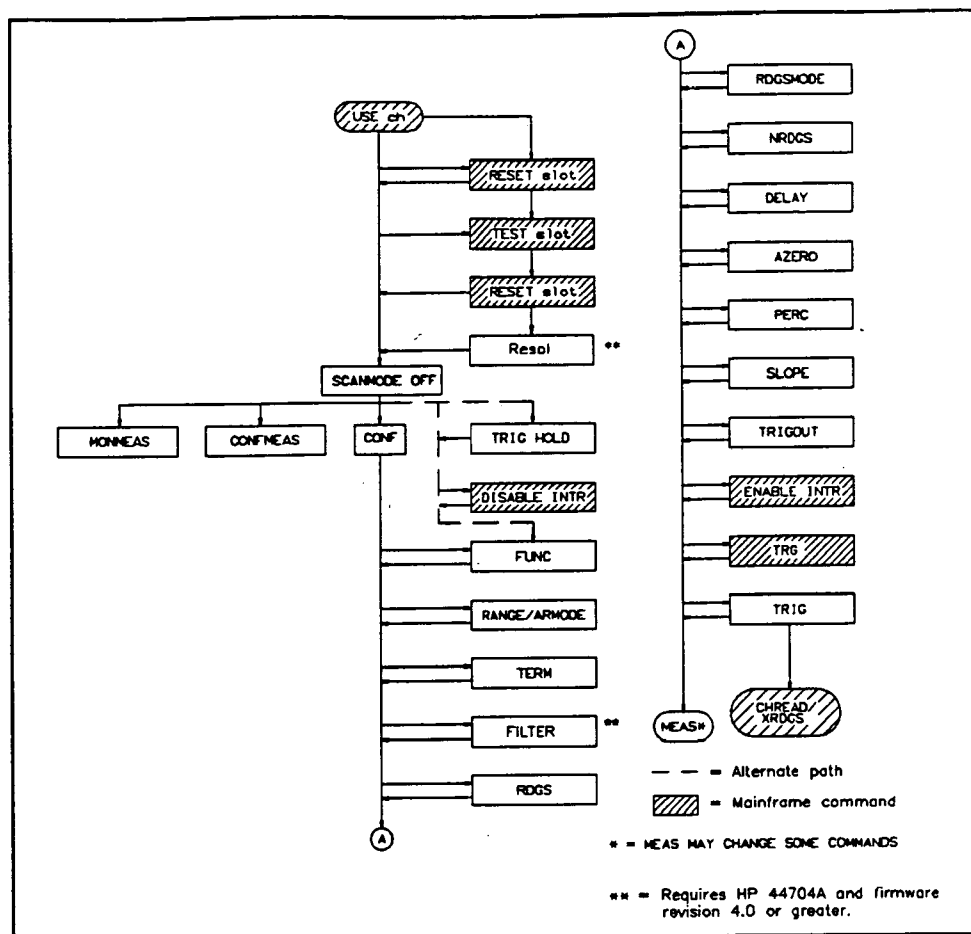

Figure 4-1. System Mode Measurements
Figure 4-1 shows a suggested programming sequence for System Mode measurements. There are three primary methods of programming (other than using MONMEAS: (1) use CONFMEAS: (2) use CONF and MEAS along with low-level commands: or (3) use CONF and low-level commands (not using MEAS).
In Figure 4-1, solid lines indicate the preferred programming path, dotted lines indicate alternate paths, and striped boxes indicate a mainframe command. For example, for System Mode measurements using CONF and MEAS are required commands, while FUNC, RANGE, etc. are optional commands which can be used to modify the CONF settings as needed.